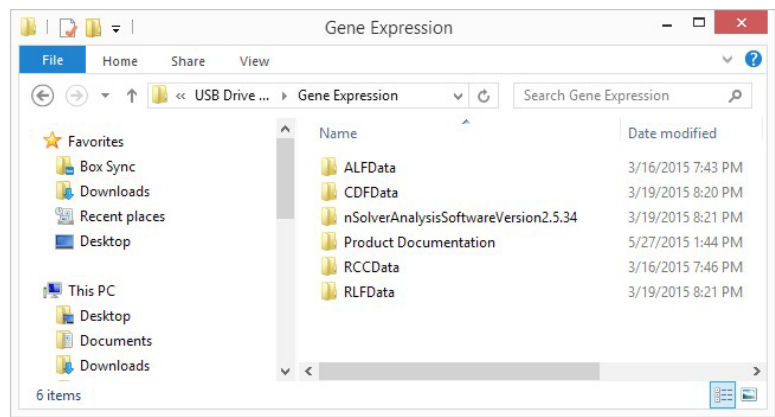

Figure 48: Example file folders stored on a USB flash drive.
- Three folders for Cartridge Definition Files (CDFData), Reporter Library Files (RLFData), and Reporter Code Count files (RCCData) (Figure 48).